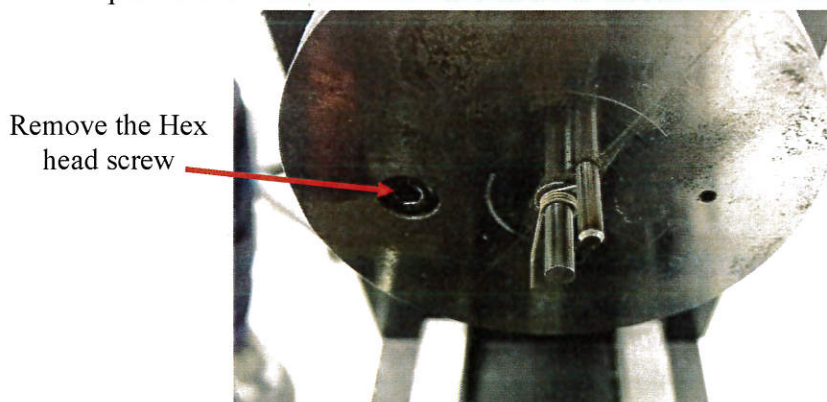

Figure 2: Remove the Hex head screw.
6.2.1. **Remove any Test Plates Fitted.** If it was found that the test plates fitted were not the required ones identified on the Works Order Instructions, as checked in step 6.2, they are to be removed by the removal of the hex head screw as identified in Figure 2: